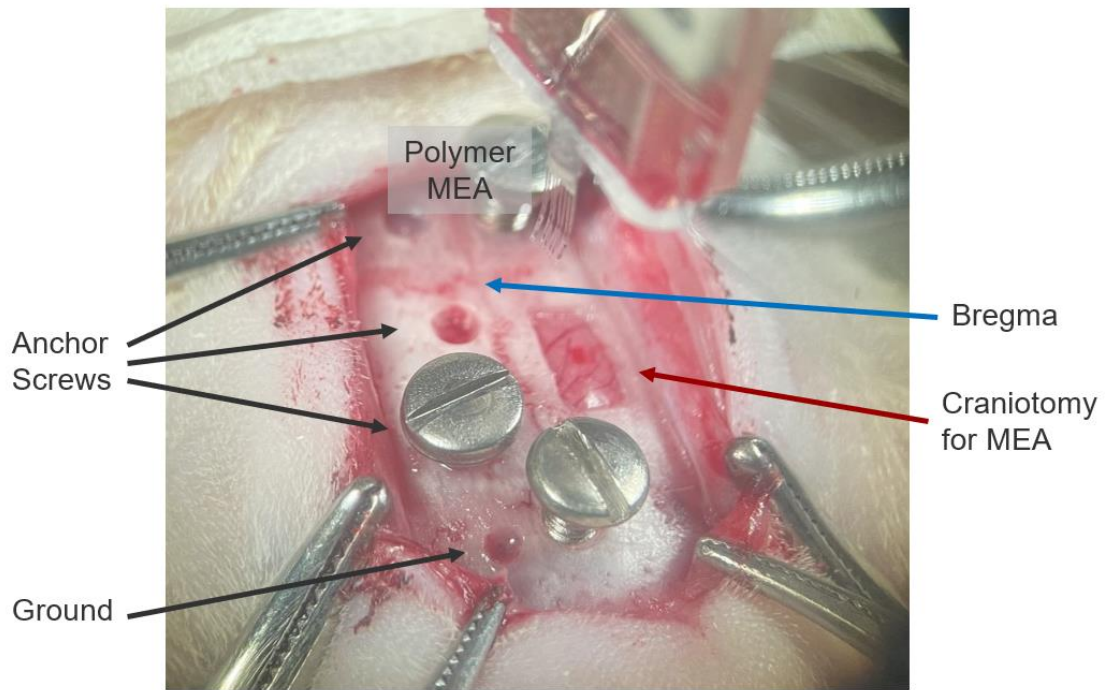

Fig 1. Typical location of five anchor screws, burr hole for ground wire and craniotomy for the polymer MEA.
4. Drill three to five burr holes for anchor screws (Fig. 1), leave enough space between holes for anchor screws, drill one small burr hole above the cerebellum for ground wires